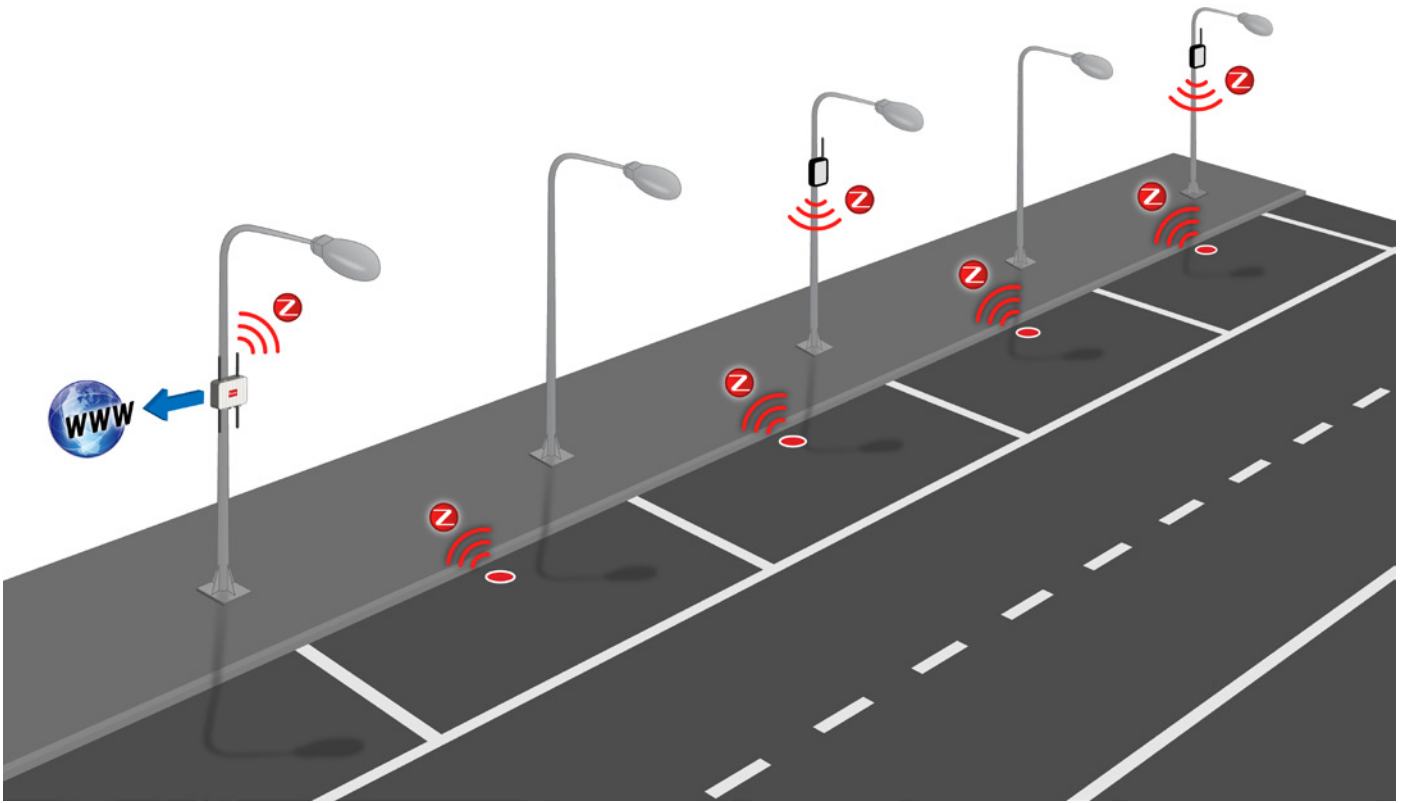

Figure 14: 868/900 MHz Direct Access Network - The Gateway sends the data to the Internet
- 3° Step (Figure 14): Meshlium sends the information to the Internet using the Wifi or GPRS radio.